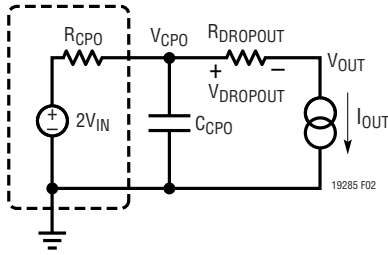

Figure 2. Equivalent Circuit
**Note 3:** Dropout voltage is the minimum input/output voltage required to maintain regulation at the specified output current. In dropout the output voltage will be equal to:  $V_{CPO} - V_{DROPOUT}$  (see Figure 2).
The maximum available current can be calculated based on the open circuit CPO voltage, the dropout voltage of the LDO and the effective output resistance of the charge pump. The open circuit CPO voltage is approximately 2VIN (see Figure 2).